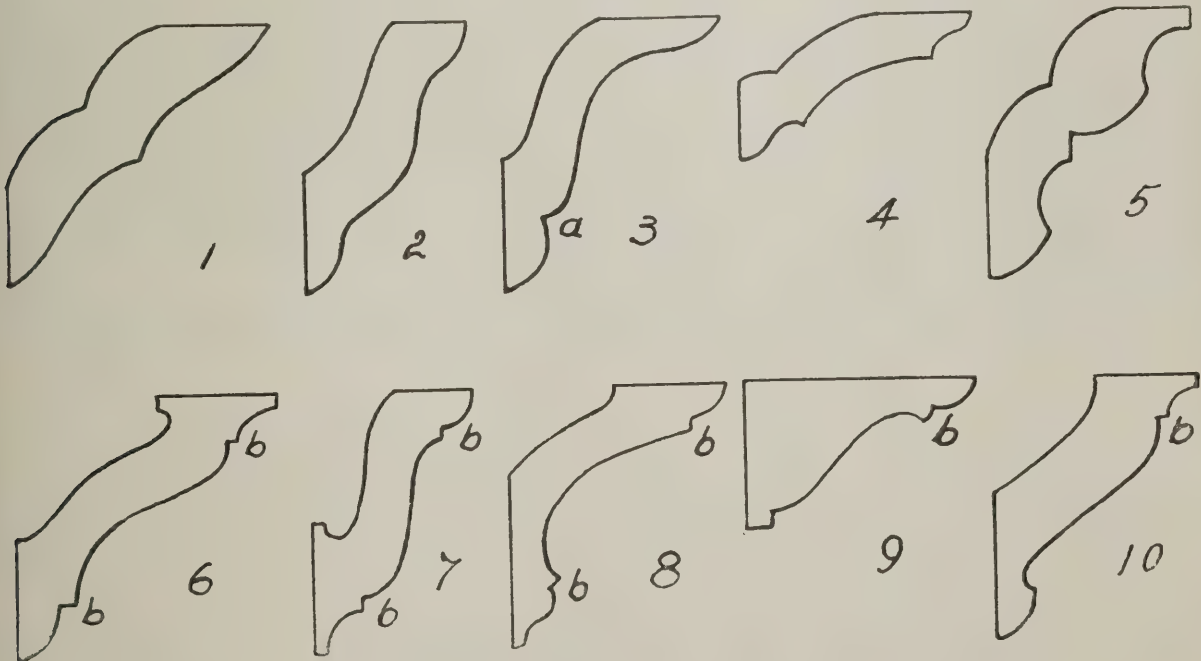

Fig. 8—Poor and good porch bracket details
The purpose and design of porch brackets are a common application of radiating and tangential lines, and their form causes them to add to or detract from the distinction of the house to a far greater degree than would seem possible for such an insignificant detail. Of the designs of Fig. 8, (1), (2), (3), (4), (5) are undesirable; No. 1, because it extends upon the post and plate equal distances, and the curves above and below the center are the same, both of which are defects because they do not permit the variety possible. A comparison with No. 6 will suggest a method by which the defects could have been remedied. No. 2 consists simply of meaningless curves with no break to the monotony; compare with No. 7. No. 3 is a slight improvement upon No. 2, but the curves are weak and ugly; the break at a would have been improved by a fillet instead of the two curves joining as they do; compare with No. 8. A comparison of No. 4 and No. 9 will show the lack of variety and weakness of the former. While Nos. 1, 2, 3, 4 and 5 are memory reproductions of porch brackets actually used, the latter includes about all that is bad in design, yet it is little worse than many so-called embellishments. Note that the shafts of (6), (7), (8), (9) and (10) are easy curves, the